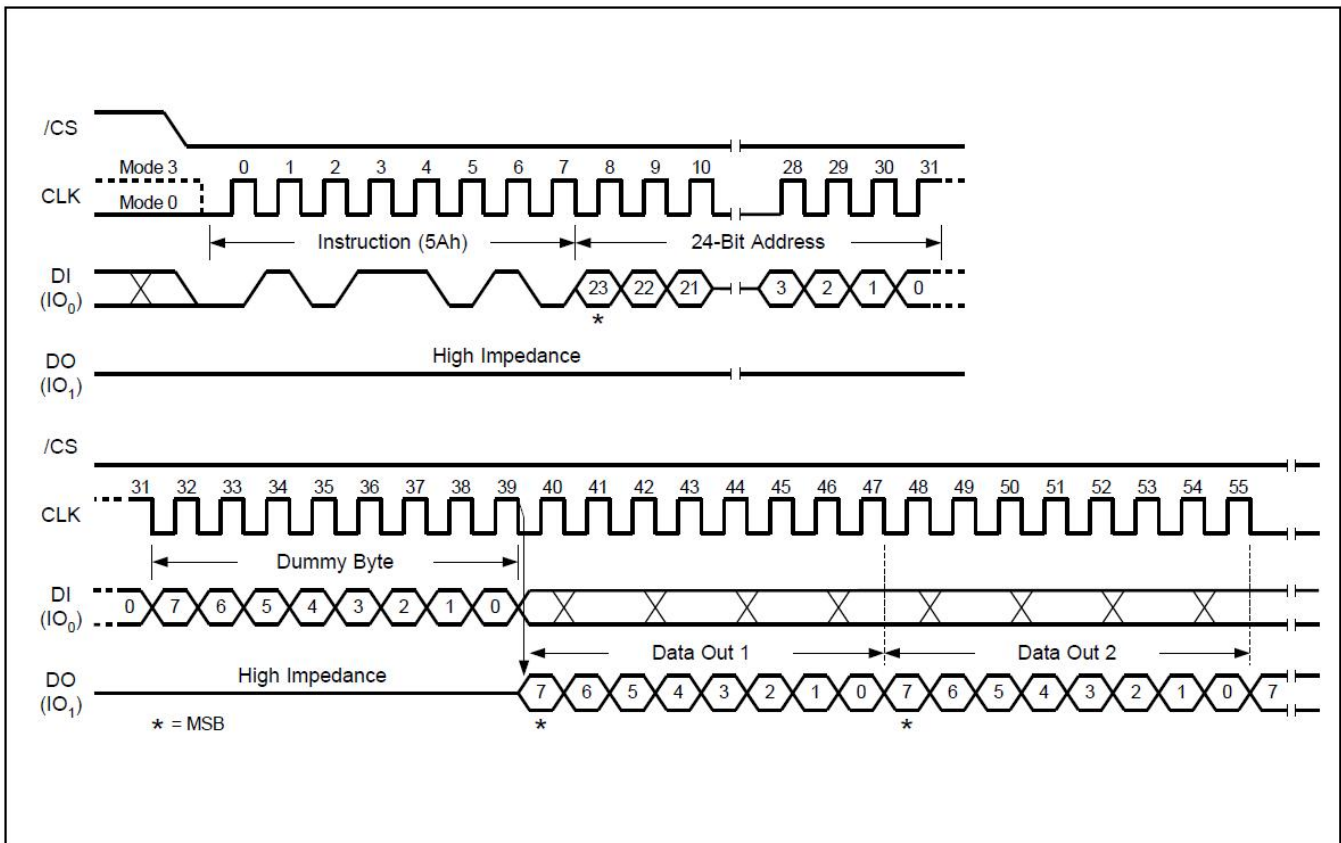

Figure 31. Read SFDP Register Instruction Sequence Diagram(SPI mode only)
The Read SFDP instruction is initiated by driving the /CS pin low and shifting the instruction code “5Ah” followed by a 24-bit address (A23-A0)(1) into the DI pin. Eight “dummy” clocks are also required before the SFDP register contents are shifted out on the falling edge of the 40th CLK with most significant bit (MSB) first as shown in Figure 31. For SFDP register values and descriptions, please refer to the Giantec Application Note for SFDP Definition Table.